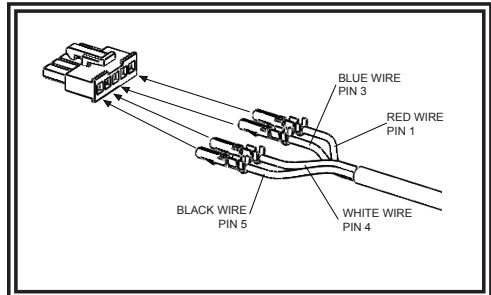

FIGURE 4
4. Turn pins crimp side up, and insert pins into connector as shown in Figure 4.